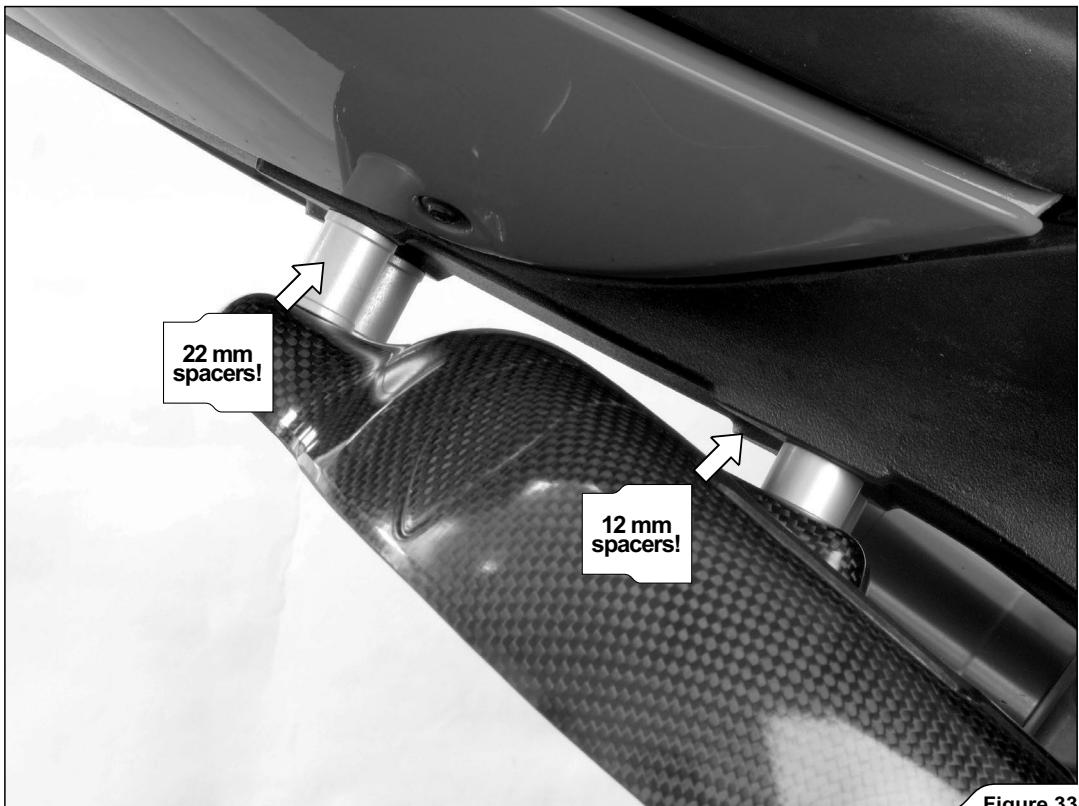

Figure 33
- ! CAUTION:** make sure to correctly assemble the spacers (Figure 33)!